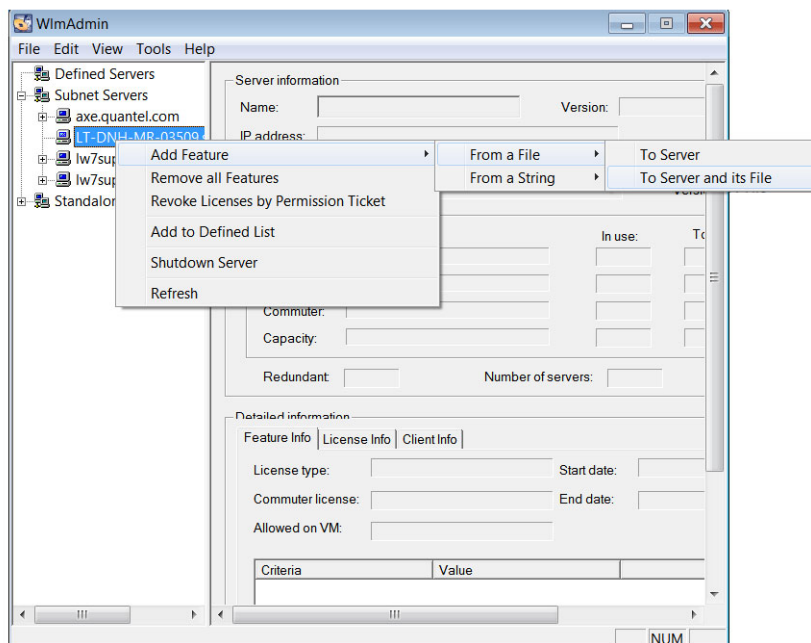

Fig. E-33: Add Feature
4. Right-click on the license host PC item and click on **Add Feature > From a File > To Server and its File**, see Figure E-33.